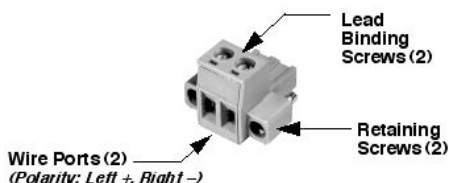

Figure 5. DC Power Connector
4. **Connect primary power.** Input power must be 10.0 to 30 Vdc and capable of providing at least 2.5 Amperes. A power connector with screw-terminals is provided with the unit (see Figure 5). Strip the wire leads to 6 mm (1/4 inch) and insert them into the wire ports. Be sure to observe proper polarity as shown below. Tighten the binding screws securely.